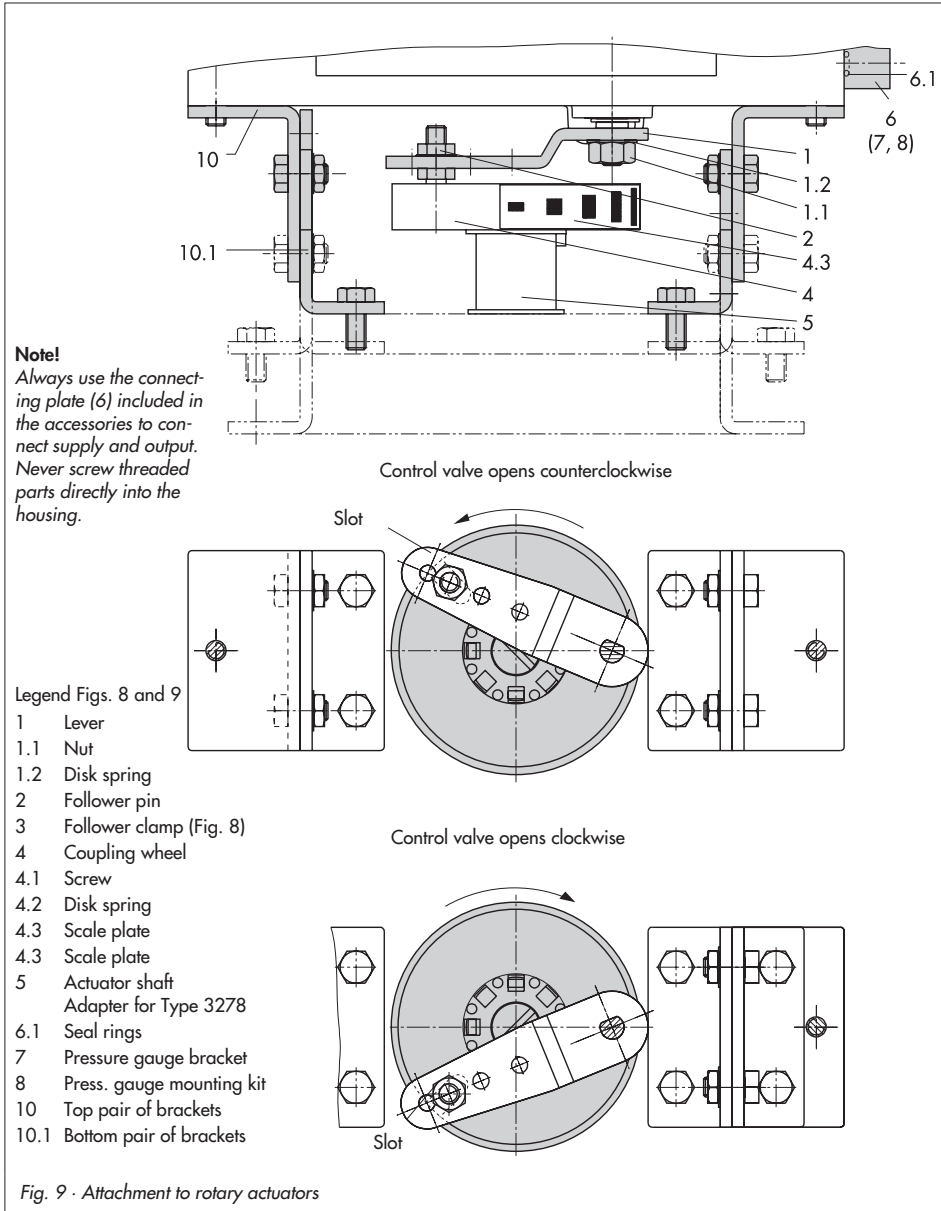

Fig. 9 · Attachment to rotary actuators
1. Place follower clamp (3) on the slotted actuator shaft or the adapter (5).
2. Place coupling wheel (4) with flat side facing the actuator on the follower clamp (3). Refer to Fig. 9 to align the slot so that it matches the direction of rotation when the valve is in its closed position.
4. Screw the bottom pair of brackets (10.1) with the bends pointing either to the inside or to the outside (depending on the actuator size) to the actuator case. Position top pair of brackets (10) and screw tight.
5. Mount connecting plate (6) or pressure gauge bracket (7) with pressure gauges to the positioner, making sure both
6. Unscrew the standard follower pin (2) from the positioner's lever **M** (1). Use the metal follower pin ($\varnothing 5$) included in the mounting kit and screw tight into the bore for pin position **90°**.
7. Place positioner on the top pair of brackets (10) and screw tight. Considering the actuator's direction of rotation, adjust lever (1) so that it engages in the slot of the coupling wheel (4) with its follower pin (see Fig. 9). It must be guaranteed that the lever (1) is parallel to the long side of the positioner when the actuator is at half its angle of rotation.